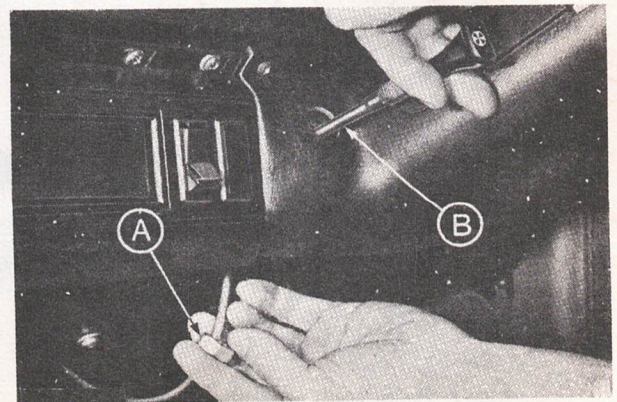

Fig. 4. Removal of choke cable from dash.
4. From under dash remove cable lock nut and pull out cable assembly, Fig. 4.